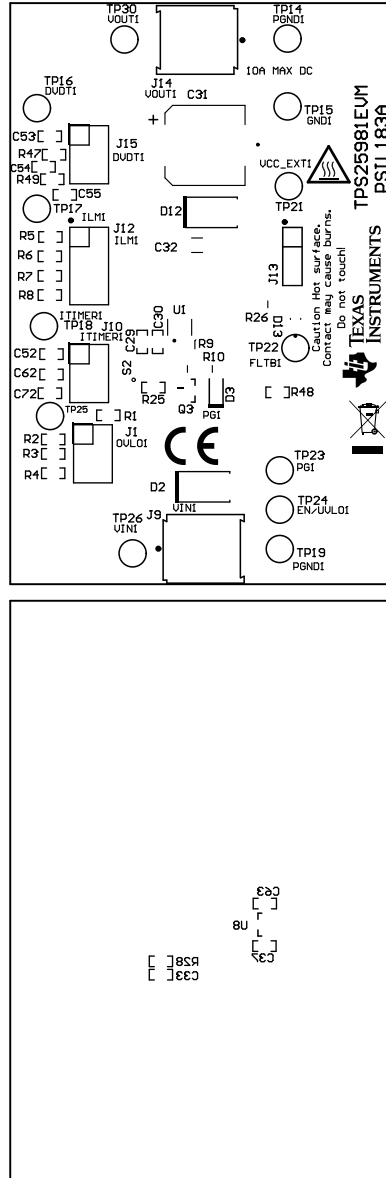
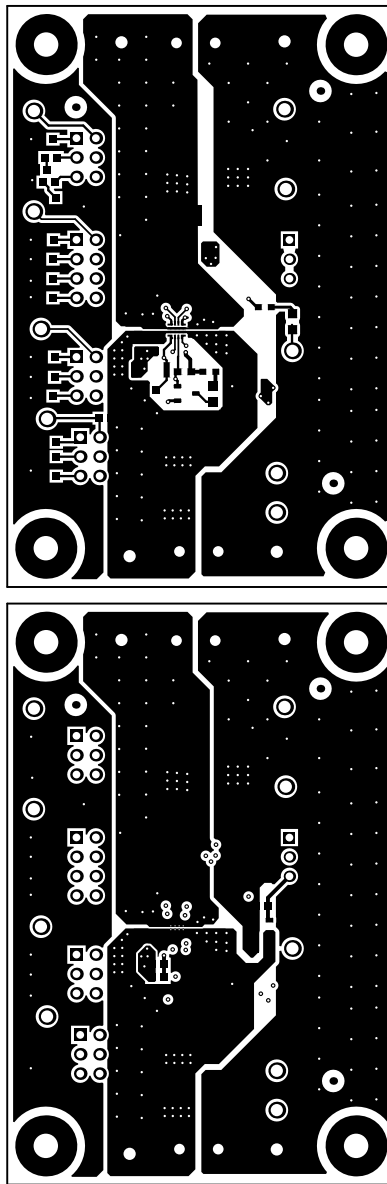

Figure 6-1. TPS25981EVM Board (a) Top Assembly (b) Bottom Assembly
Figure 6-2. TPS25981EVM Board (a) Top Layer (b) Bottom Layer
Figure 6-1 shows component placement of the EVAL Board. Figure 6-2 shows PCB layout images.
• Updated <a href="#">Figure 6-1</a> and <a href="#">Figure 6-2</a> .....	<a href="#">14</a>